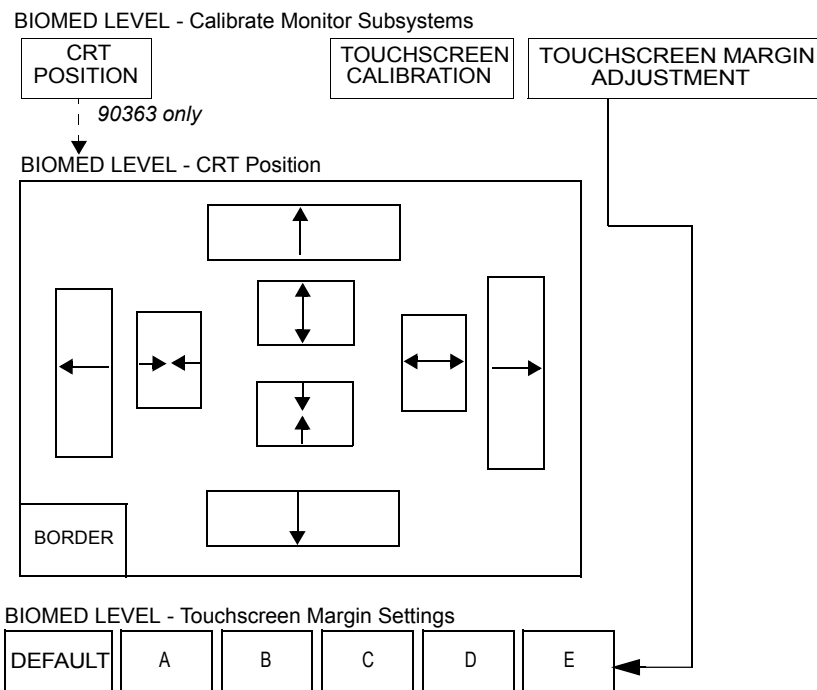

Figure 2-10: 90363 Monitor Calibration menu
2. Verify that the CRT position adjustment keys appear (refer to Figure 2-10).